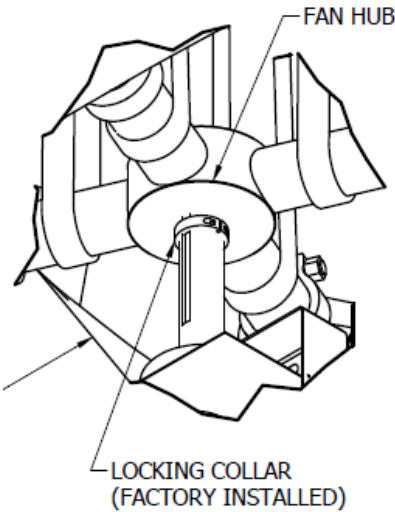

Figure 23. Hub Detail
5. Lower the hub and bushing onto the shaft until the hub contacts the locking collar as shown in **Figure 23**.
9. If tightening the fan hub bushing caused the fan to lift away from the locking collar, raise the locking collar to contact the hub and tighten the locking collar screw to 50 ft-lbs (67.79 Nm) as shown in **Figure 23**.